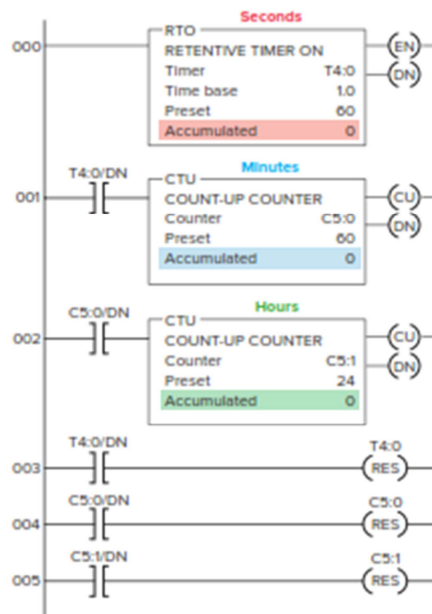

Fig.Q4 (b)
- b) Consider the Ladder diagram/program in Fig.Q4 (b).